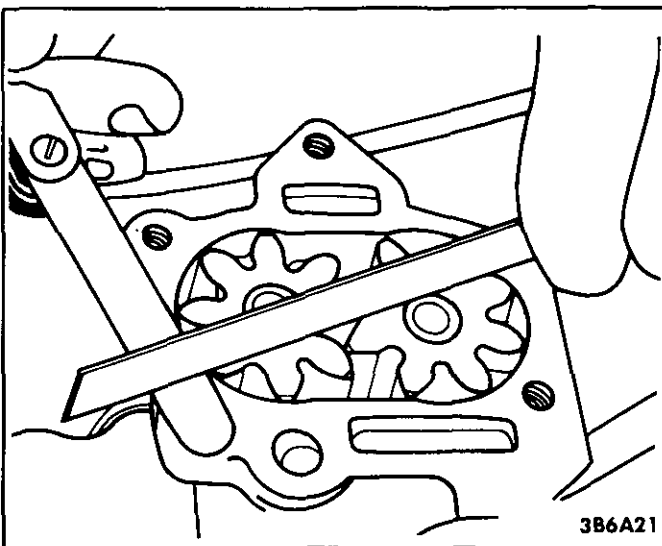

Figure 22 Measuring Oil Pump End Clearance
- Gear end clearance (Figure 22)